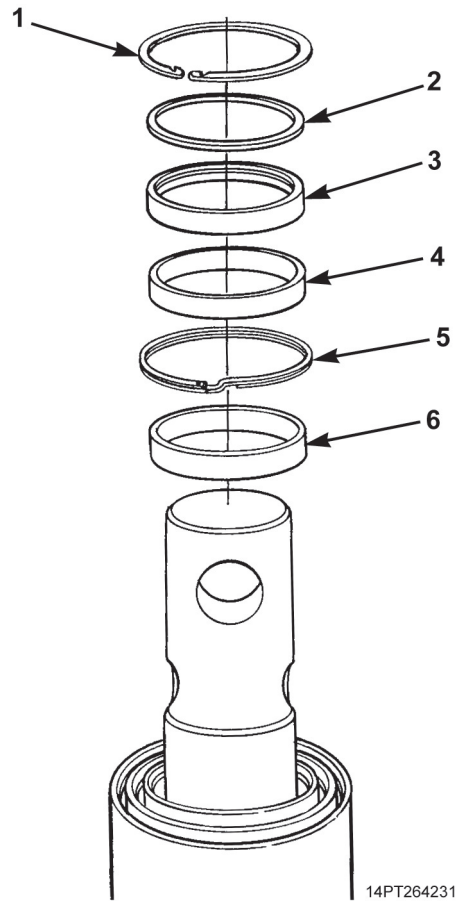

Figure 29. Ring, Seal, and Wiper Installation.
16. Install new bottom guide ring (Figure 29, Item 6) and new spiral retaining ring (Figure 29, Item 5).
17. Install new seal (Figure 29, Item 4).
18. Install new wiper (Figure 29, Item 2) in new wiper retainer (Figure 29, Item 3) and install wiper retainer.
19. Install retaining ring (Figure 29, Item 1).